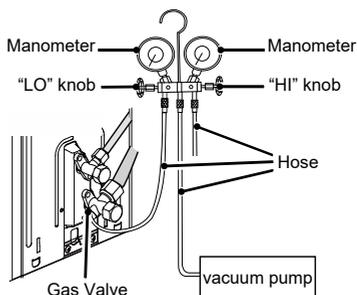

Fig.10
3. As shown in the following figure (Fig. 10), expel the gas inside the indoor unit and refrigerant pipe out by the vacuum pump.